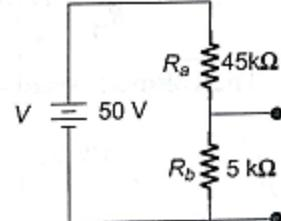

Fig. 4.8 (a)
**Example 4.13** Find the voltage reading and % error of each reading obtained with a voltmeter on (i) 5 V range, (ii) 10 V range and (iii) 30 V range, if the instrument has a  $20 \text{ k}\Omega/\text{V}$  sensitivity and is connected across  $R_b$  of Fig. 4.8 (a).